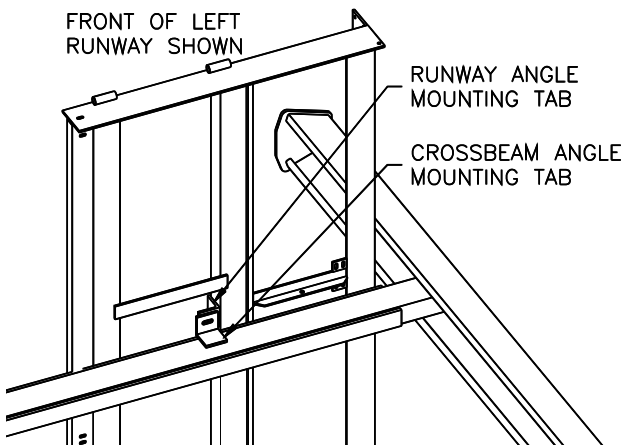

Fig 17 – Runway Attachment (as viewed from below looking up at bottom of runway)
28) * Loosely attach runways to crossbeams by connecting runway angle mounting tabs to crossbeam angle mounting tabs Fig 17 (four bolts per lift).
31) Center fore-&-aft each crossbeam end inside its column. With the proper location of the runways in the bay and the crossbeams in the columns, the runway mounting bolts can now be tightened, Fig 17.